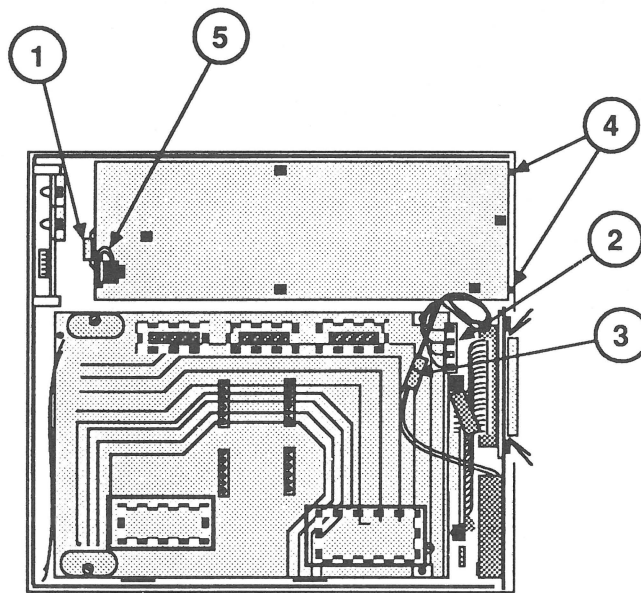

FIGURE 2
2. Push back the power supply tab (Figure 2, #1), lift up the front edge of the power supply, slide the power supply forward, and rest it on the front of the case.
3. Disconnect the power supply cable from the CD SC drive mechanism (Figure 2, #2).
4. If a fan is connected to the power supply, disconnect the fan cable by releasing the little holding clip on the connector (Figure 2, #3).
2. Connect the power supply cable to the CD SC drive mechanism (Figure 2, #2). It fits only one way.
4. Carefully slide the power supply toward the tabs on the inside back of the case bottom (Figure 2, #4) until the tabs fit into the holes in the power supply's metal case.
5. Carefully settle the power supply into place, so that the edge of the metal bracket fits under the front power supply tab (Figure 2, #1).
Note: The power supply will have two cables taped to the top—a black-and-orange cable that emerges from the small opening on the top of the power supply and is shown in Figure 2, #5, and the black-and-red cable that you taped in step 3a. **These cables do not connect to any part of the AppleCD SC.**